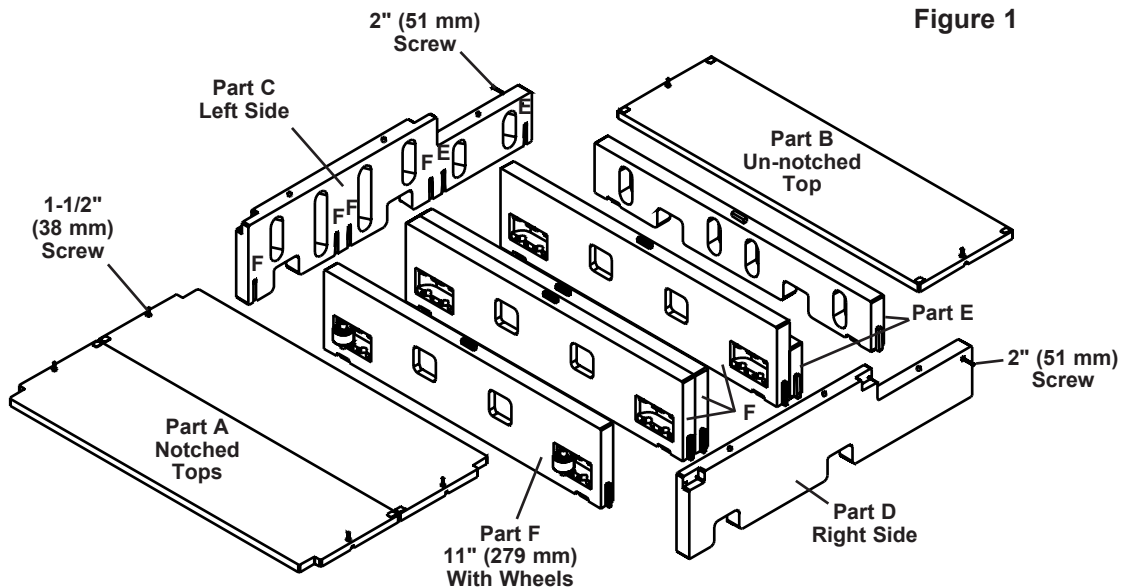

Figure 1
1. Orient the base parts similar to **Figure 1** with the parts laying flat on the floor.